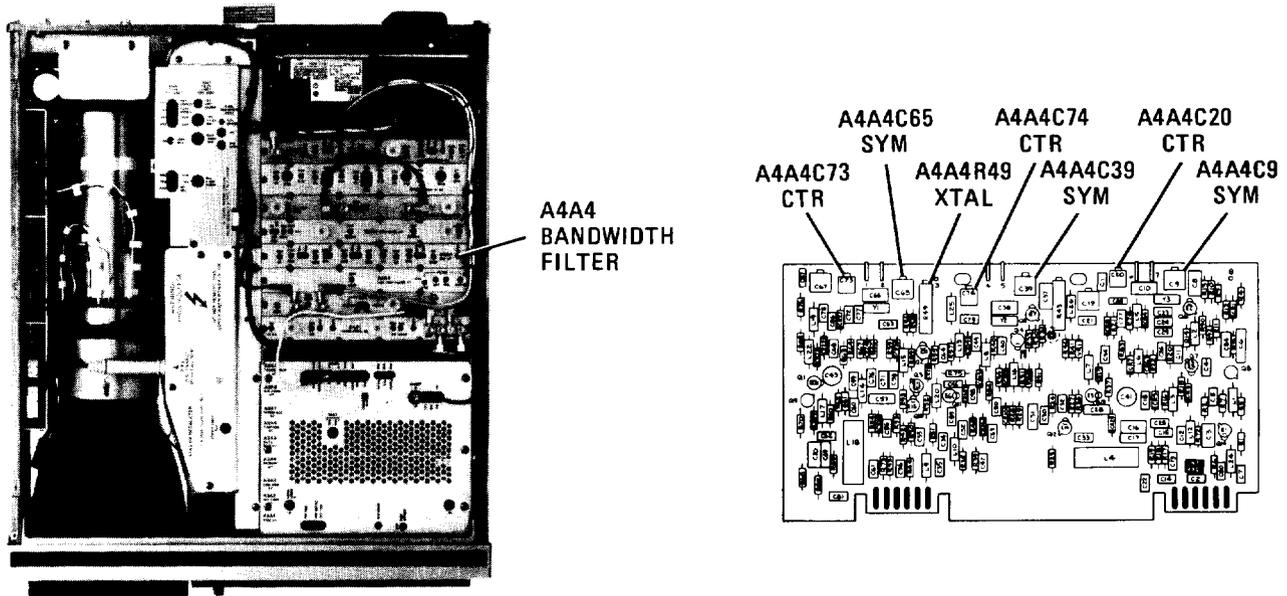

FIGURE 28. LOCATION OF A4A4 21.4 MHz CRYSTAL FILTER ADJUSTMENTS
19. Adjust A4A4C20 CTR to center signal on center graticule line. Adjust A4A4C9 SYM for best symmetry of signal. Refer to Figure 28 for location of adjustments. If unable to adjust SYM for satisfactory signal symmetry, increase or decrease value of A4A4C10. Refer to Table 3 for range of values.
21. Adjust A4A4C74 CTR to center signal on center graticule line. Adjust A4A4C39 SYM for best symmetry of signal. Refer to Figure 28 for location of adjustments. If unable to adjust A4A4C39 SYM for satisfactory signal symmetry, increase or decrease value of A4A4C38. Refer to Table 3 for range of values.
23. Adjust A4A4C73 CTR to center signal on center graticule line. Adjust A4A4C65 SYM for best symmetry of signal. Refer to Figure 28 for location of adjustments. If unable to adjust A4A4C65 SYM for satisfactory signal symmetry, increase or decrease value of A4A4C66. Refer to Table 3 for range of values.
27. Adjust A4A4R49 XTAL to align markers on display. MARKER Δ level should indicate 1.00 X. Refer to Figure 28 for location of adjustment.